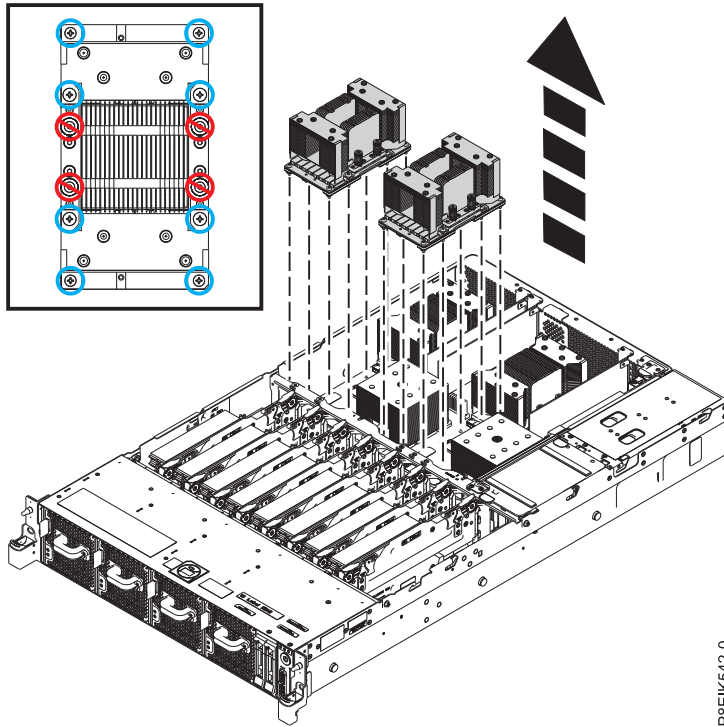

Figure 75. Remove eight GPU screws per GPU; do not loosen the four spring-loaded screws. This illustration shows two GPUs being removed.
4. For the GPU you are removing, remove the eight screws shown in Figure 75 on page 61.